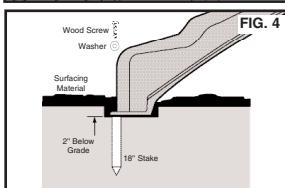

FIG. 4
**NOTE:** The bottom of the slide should rest 2" below grade (See Fig. 4). Cut lumber to create a 2" x 4" x 18" stake. Drive the 2" x 4" x 18" stake at the bottom center of the slide. The top of the stake should be flush below the 2" grade.(See Fig.4)